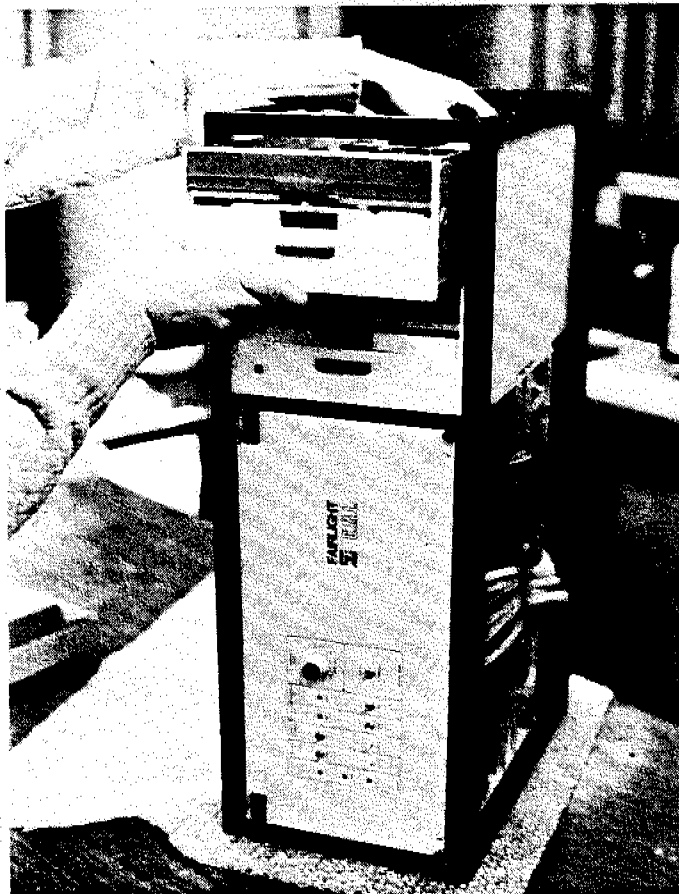

Figure 9.1 Disk Drive Removal
5. Turn machine over onto its left-hand side. Refer figure 9.1.